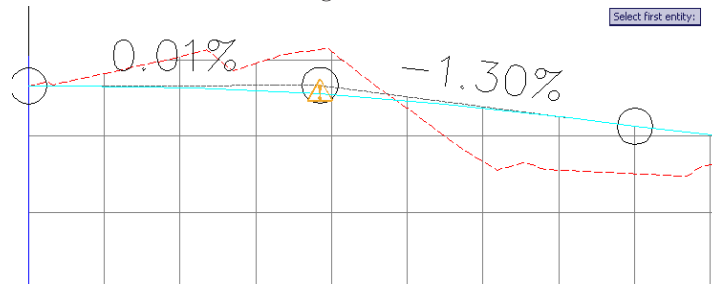

Figure 6-49 The vertical curve with the violation symbol on it
5. Enter **5000** at the command line and press ENTER; a free vertical curve is added between the tangents on the left and right of the second circle. Note that a violation symbol is displayed on the curve, as shown in Figure 6-49.